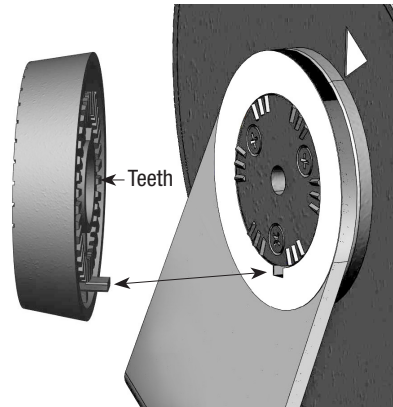

Fig 6
- 7) Apply three drops of Loctite adhesive around each of the (2) longer Bolt threads between 1.1" and 1.5". **Fig 6**